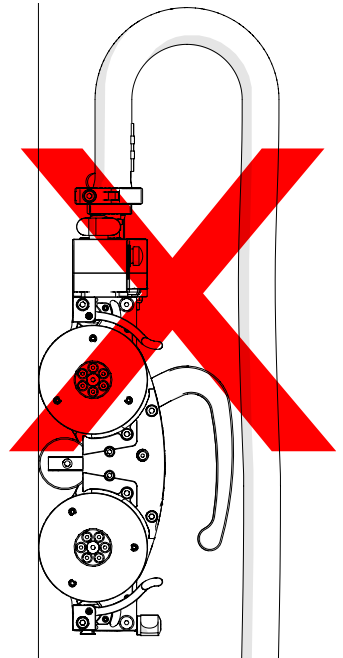

Fig. 122 - Incorrect use
3. Ensure the umbilical strain relief never points downwards during operation (Fig. 122).